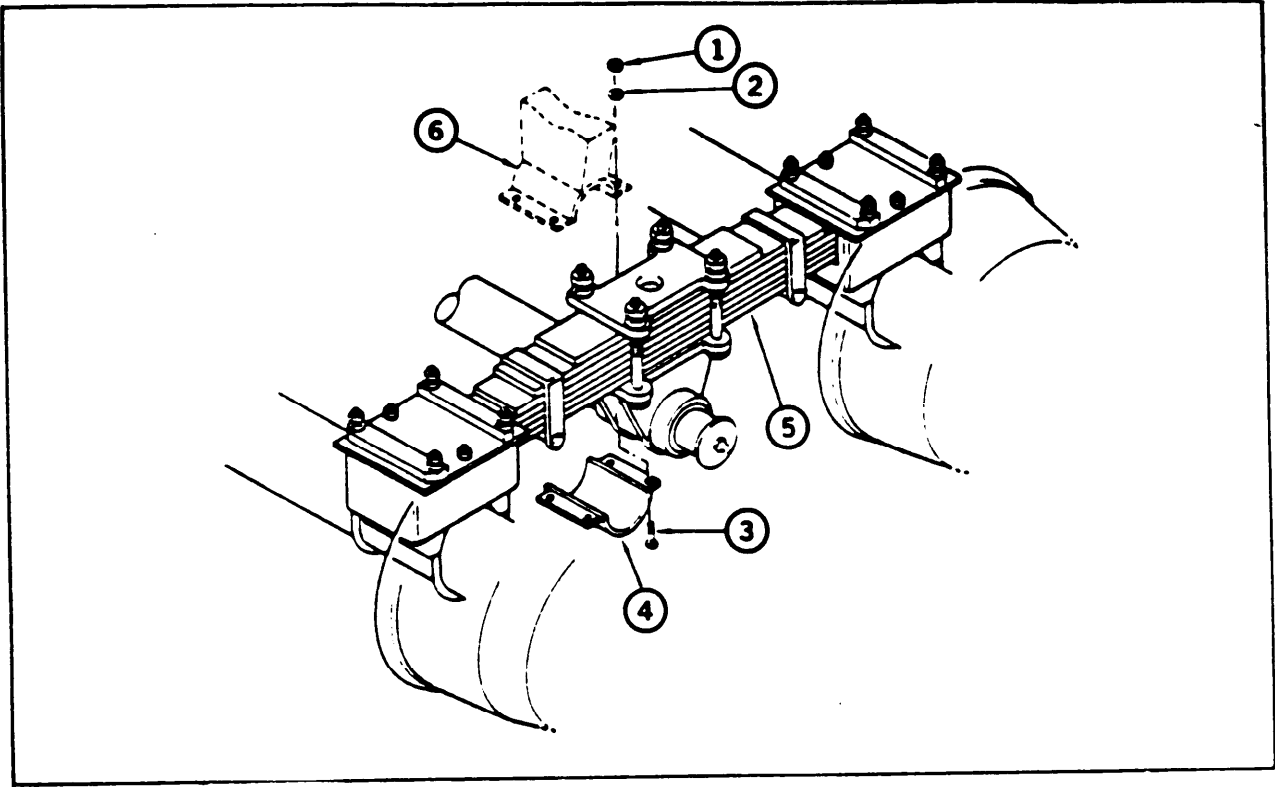
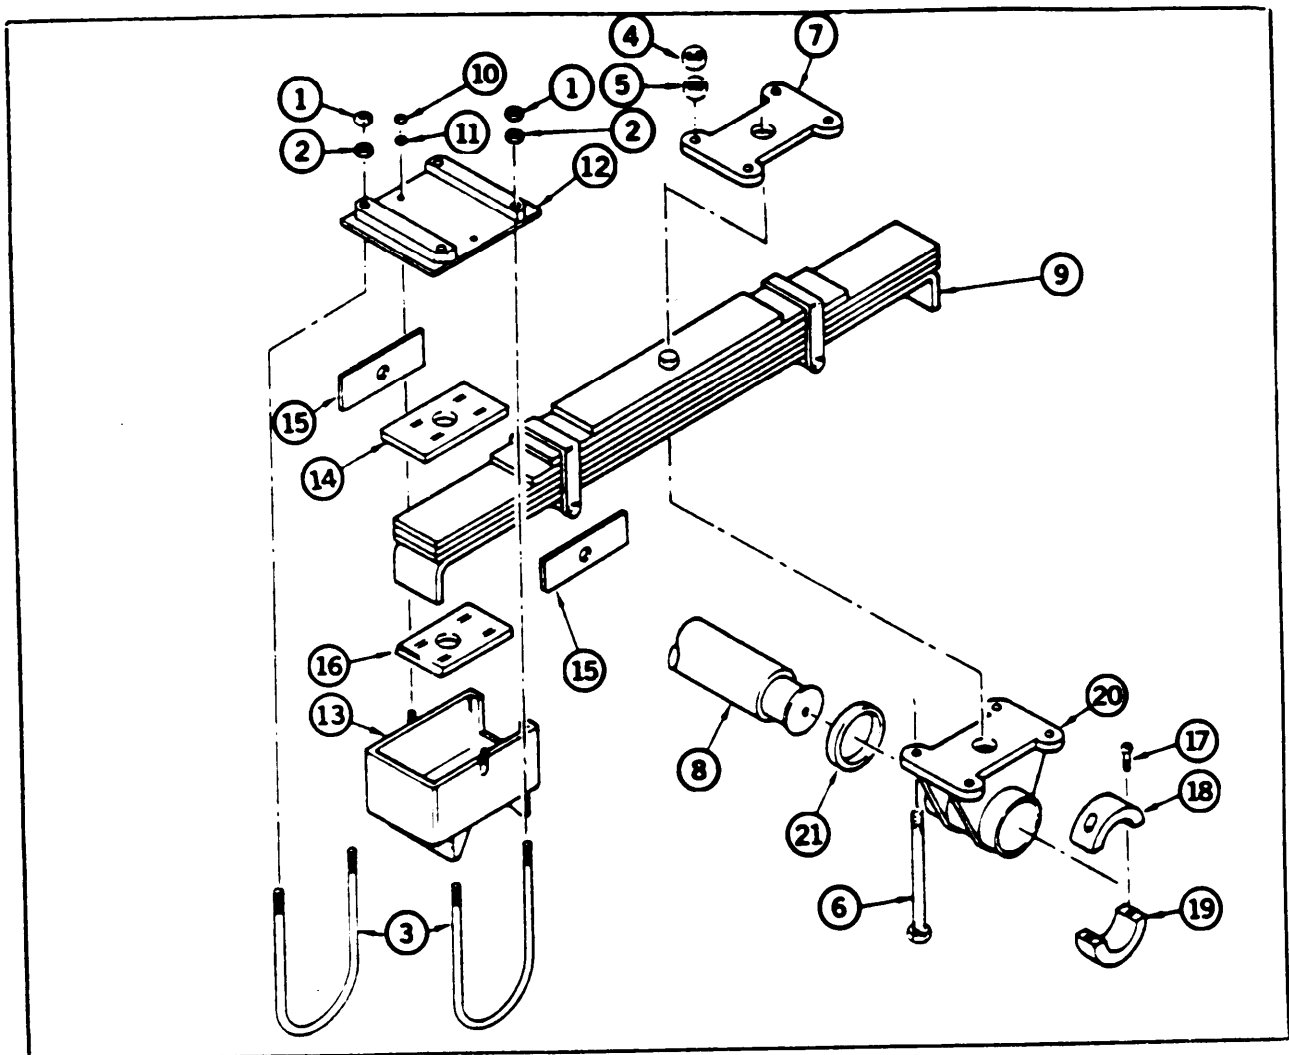

Figure 3-51. Trailer Suspension Assembly (ARMY)
Figure 3-52. Trailer Suspension (ARMY)
3-42. TRAILER SUSPENSION ASSEMBLY. (Figure 3-51) (ARMY)
- (1) To remove spring assembly (figure 3-52), perform the following:
- (a) Remove nuts (1), washers (2), and U-bolts (3).
- (b) Remove nuts (4) and (5), bolts (6), and trunnion bracket plate (7). Axle trunnion (8) will now fall free of spring assemblies (9).
- (c) Shackle boxes are still installed on spring assemblies (9). In order to remove them, perform the following:
(19) Install spacer ring (21) (figure 3-52) and position trunnion bracket (20) on axle trunnion (8), then install clamps (18) and (19) and screws (17) .
(20) To install spring assembly (figure 3-52), perform the following:
- (a) Install bottom spacers (16) in shackle box (13) .
- (b) Position spring assembly (9) in shackle box (13).
- (c) Install side spacers (15) and top spacer (14).
- (d) Position shackle box cover (12) on shackle box (13) and install washers (11) and nuts (1 O).
- (e) Position spring assemblies (9) on axle trunnion (8).
- (f) Install trunnion bracket plate (7) using bolts (6) and nuts (4) and (5).
- (g) Install U-bolts (3), washers (2), and nuts (1) .
f. Installation. (Figure 3-51).
(1) Attach a sling to four lifting eyes of trailer frame and hook to portable crane or forklift.